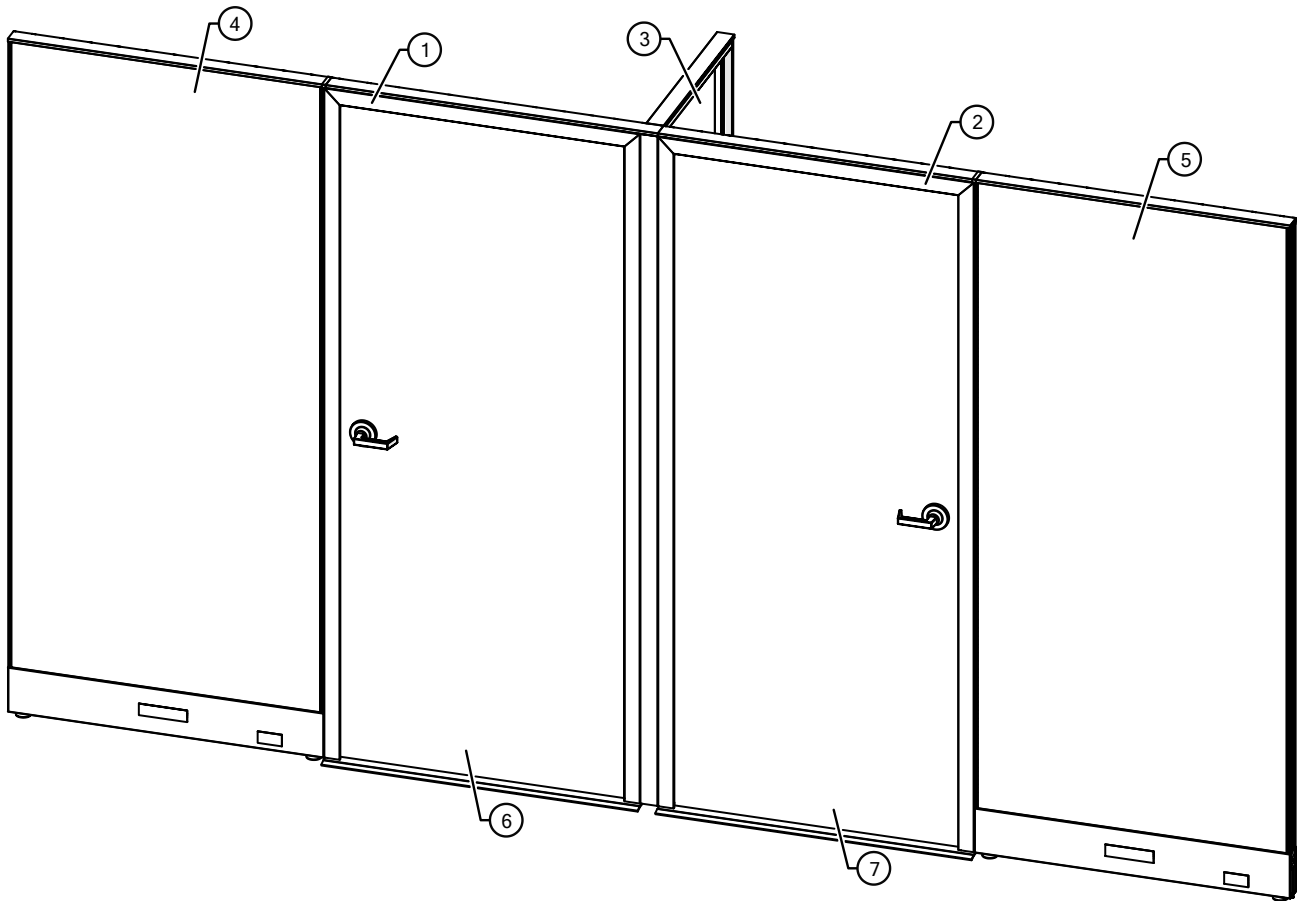

**Figure 15**
**19.** Install the 3-way or “T” Filler, top trims, top trim caps, and raceways, (Figure 15).